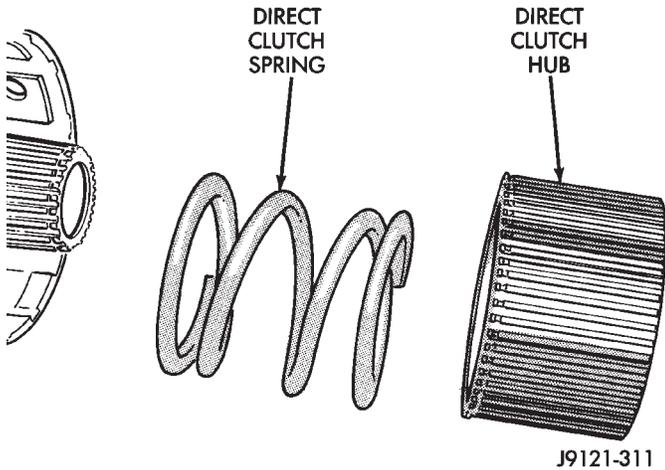

Fig. 226 Direct Clutch Hub And Spring Removal
- (1) Remove direct clutch hub and spring (Fig. 226).